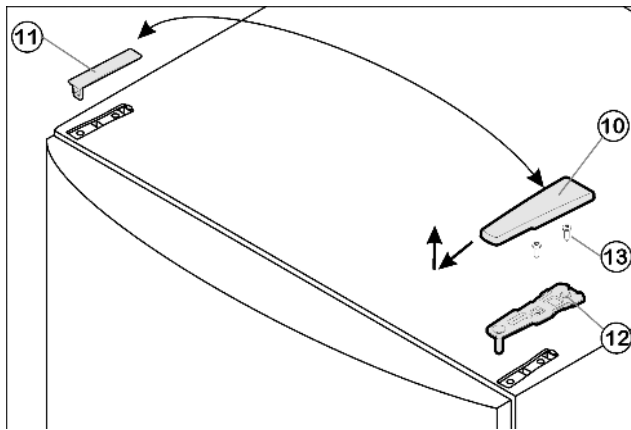

Fig. 9
- ▶ Pull cover Fig. 9 (10) forward and upwards to remove.
- ▶ Lift off cover Fig. 9 (11).
- ▶ Unscrew upper bearing bracket Fig. 9 (12) (2 x Torx® 25) Fig. 9 (13) and pull it upwards to remove.
- ▶ Insert the upper bearing bracket Fig. 9 (12) on the new hinge side into the door.
- ▶ Tighten the upper bearing bracket (**to 4 Nm**)(2 x Torx® 25) Fig. 9 (13). Make preliminary holes (optional) or use a cordless screwdriver.
- ▶ Snap both cover Fig. 9 (11) and cover Fig. 9 (10) into place on the opposite side.